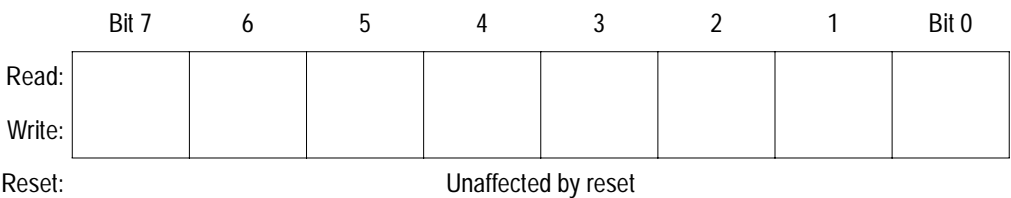

Figure 3-3. Index Register (X)
In the indexed addressing modes, the CPU uses the byte in the index register (X) shown in Figure 3-3 to determine the conditional address of the operand. See 12.3.5 Indexed, No Offset, 12.3.6 Indexed, 8-Bit Offset, and 12.3.7 Indexed, 16-Bit Offset for more information on indexed addressing.